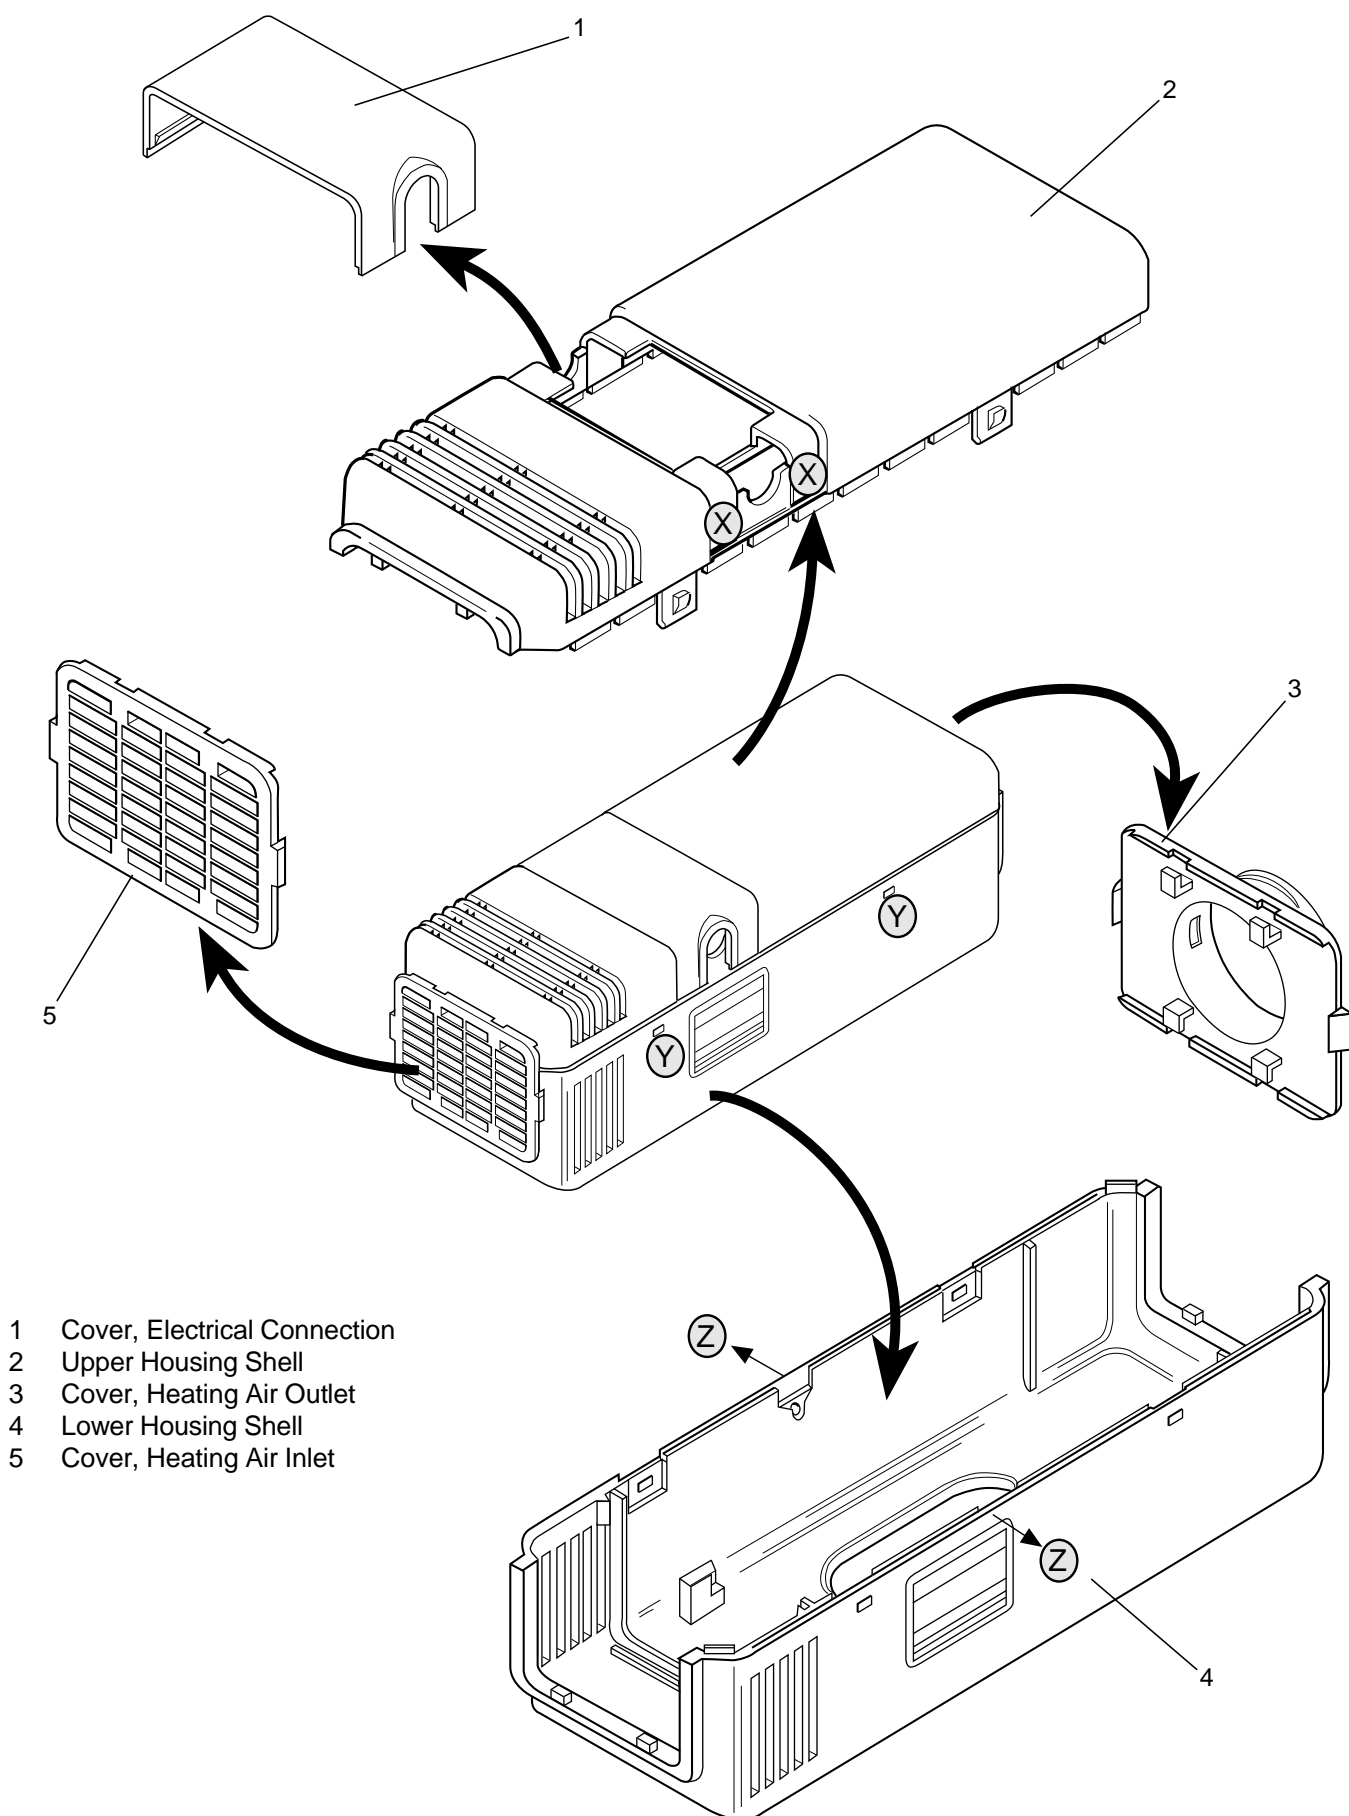

Fig. 901 Removal of Housing Components/Covers
Both covers (3 and 5, Fig. 901) may be removed by a slight side lift and a slide to left or right out of the locked position.
By simultaneously exerting pressure on the catches of the upper housing shell (2, Fig. 901) in the areas (Y), the shell disengages and can be lifted off.
By simultaneously exerting a light pull to the lower housing shell (4, Fig. 901) in the areas (Z), the catch is released and the shell may be separated from the motor housing.